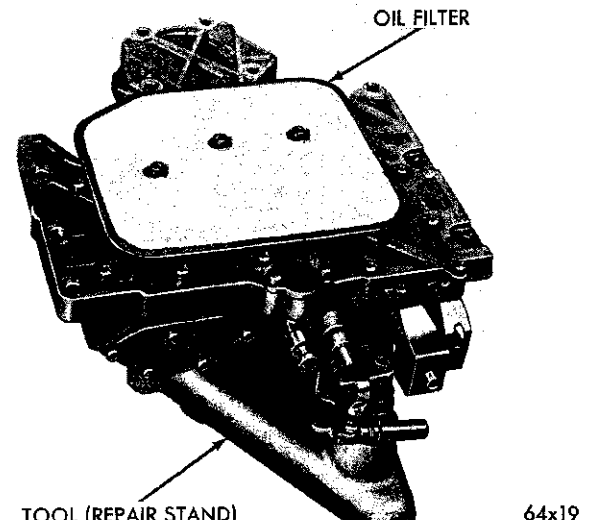

Fig. 55—Removing or Installing Oil Filter
(1) Place the valve body assembly on a repair stand, Tool C-3749 (Fig. 55). Remove three screws from the oil filter and lift off the filter and gasket.